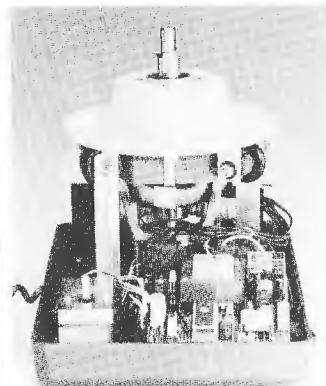

Fig. 4 :
- (5) Timer
- (6) Standard rotor, 45°, capacity for 18 microcentrifuge tubes, (Fig. 4).
- Check motor brushes for wear (Fig. 4 and 5): If a thin black pin (1) is visible on either motor brush, the motor brushes must be changed.